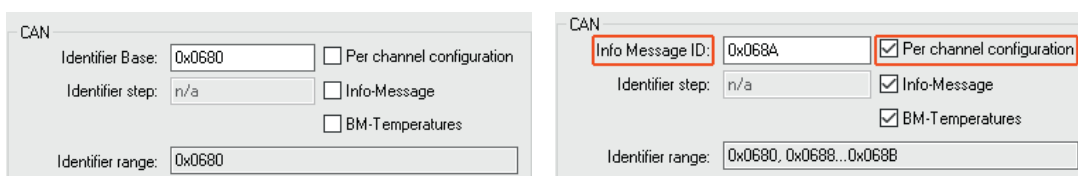

Fig. 5-40: Device configuration dialog, dialog section **CAN**
- ▶ The name of the **Identifier base** field changes into **Info Message ID** Fig. 5-40. This field then displays the start ID of the optional CAN message that has been activated first.